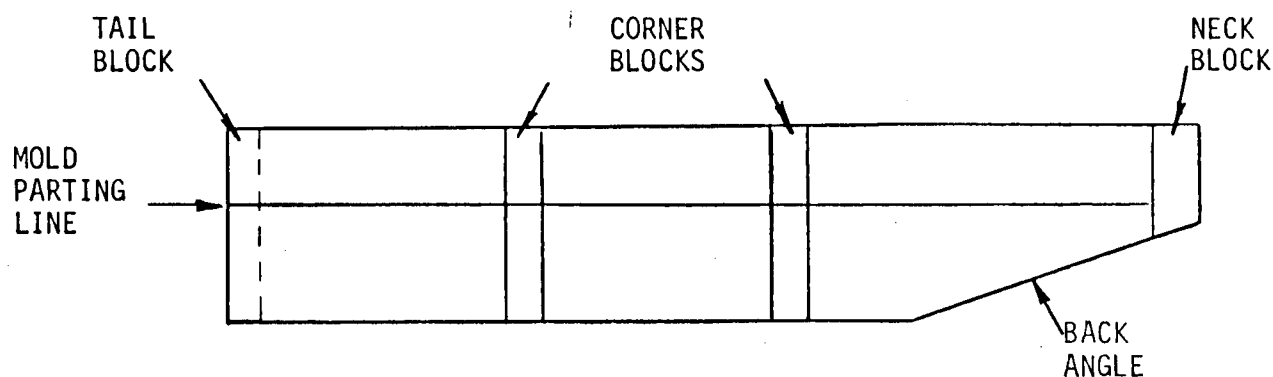

Figure 4-1. Mold Parting Line
7. Plane or joint the mold down to a thickness of 2-3/8 inches. NOTE: The parting line between mold halves should lie above the angled juncture of back and neck block (see Figure 4-1). The rough sandwich may have to be planed on both sides to achieve this. Sink the screws or bolts holding the two halves together so that the plane or joiner doesn't hit the heads or points.